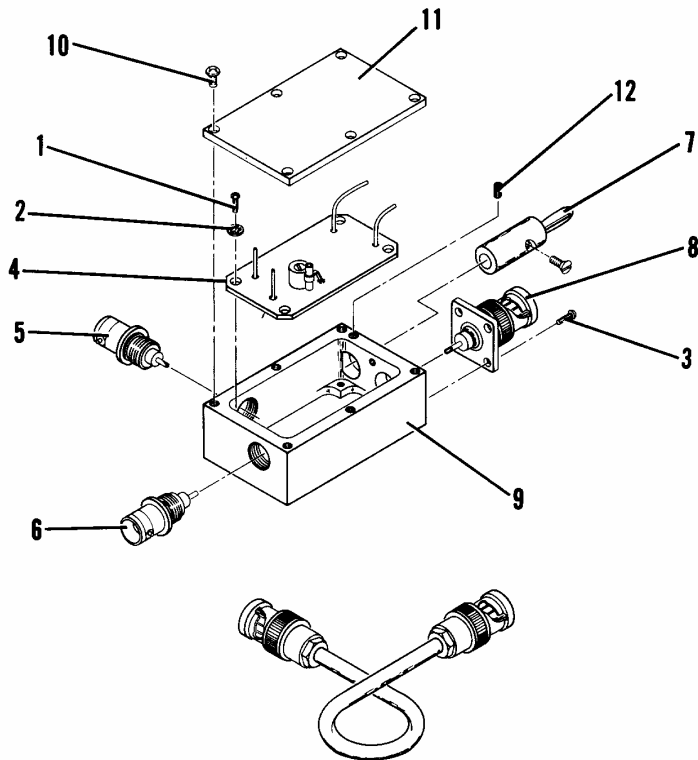

Figure 6-9 Generate Amplifier Assembly
B. Disassembly (Figure 6-9)
1. Remove six screws (10) attaching cover (11) to enclosure block (9).
2. Unsolder leads to BNC connectors (5, 6 and 8). Unscrew and remove male connectors (5) and (6).
3. Unsolder lead to connector (7). Loosen set screw (12).
4. Remove four screws (3) attaching BNC connector (8) to enclosure block (9).
5. Remove four screws (1) and lock washers (2) attaching PC board (4) to enclosure block (9).